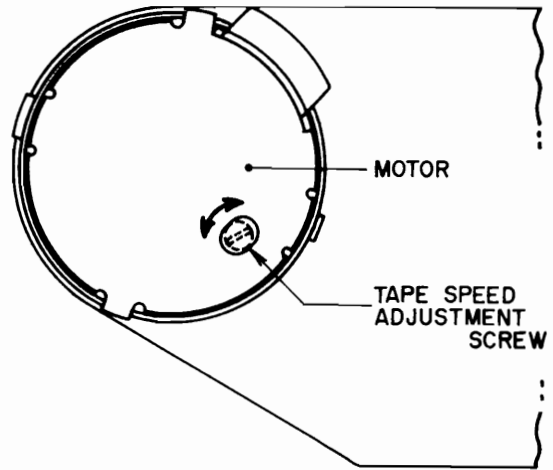

Fig. 4. Tape Speed Adjustment
2. TAPE SPEED ADJUSTMENT (Refer to Fig. 4)